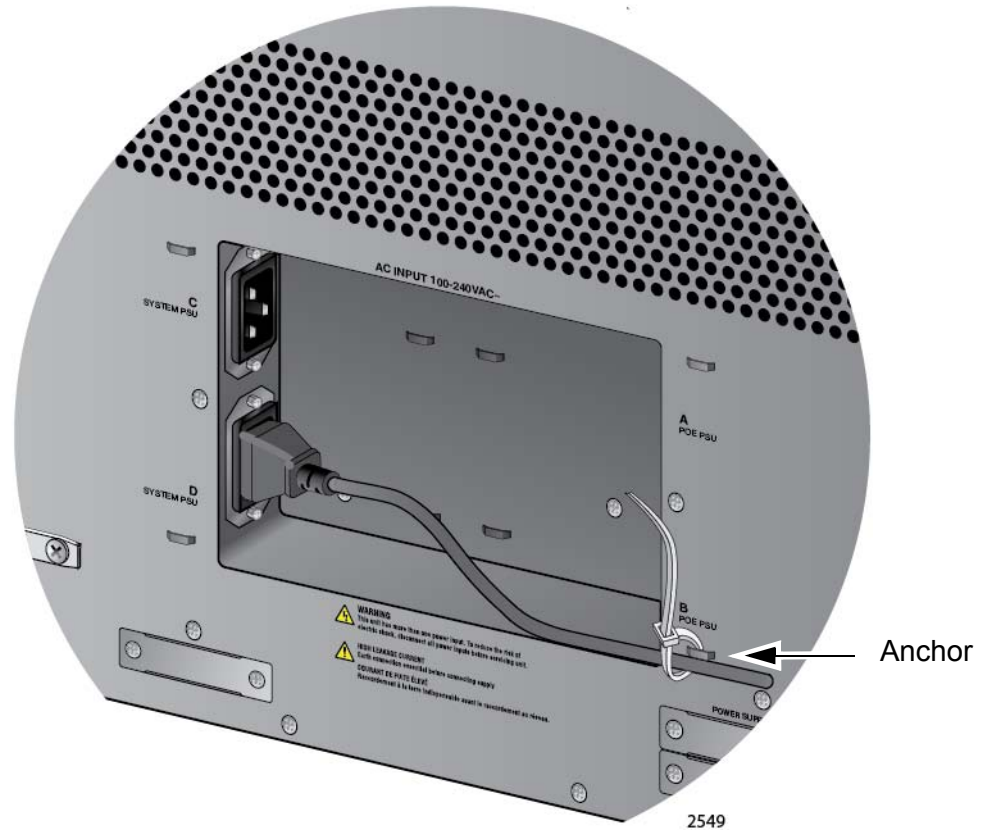

Figure 110. Securing the Power Cord for the AT-SBxPWRSYS1 Power Supply to an Anchor
3. Use the twist tie included with the power supply to secure the cord to an anchor on the chassis to protect it from being accidentally pulled out, as shown in Figure 110 on page 157.